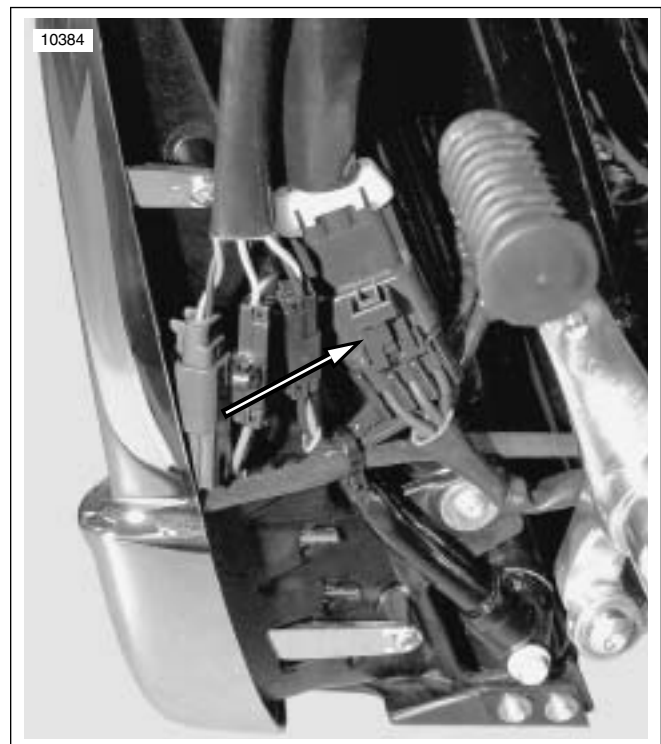

Figure 8-11. Stator-to-Regulator Connector [46] (typical) (VRSCA shown)
3. See Figure 8-11. Push straight down to remove stator to regulator connector [46] from metal clip on side of radiator cover.